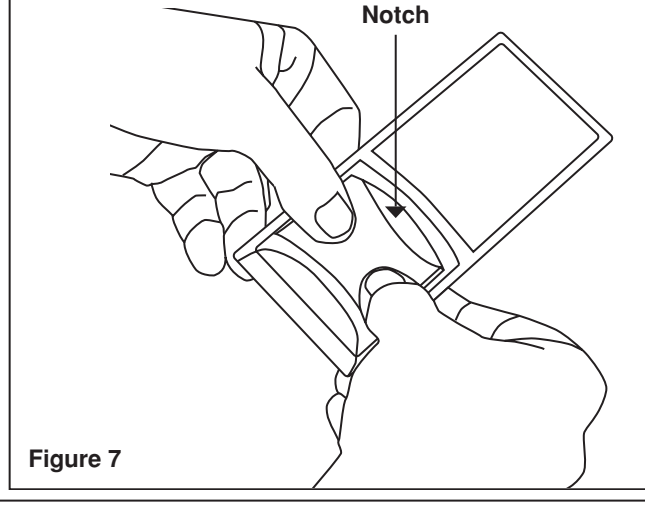

Figure 7
3. Remove the installed lens by gently squeezing it to ease one side out of its groove, and then the other (see FIGURE 7).